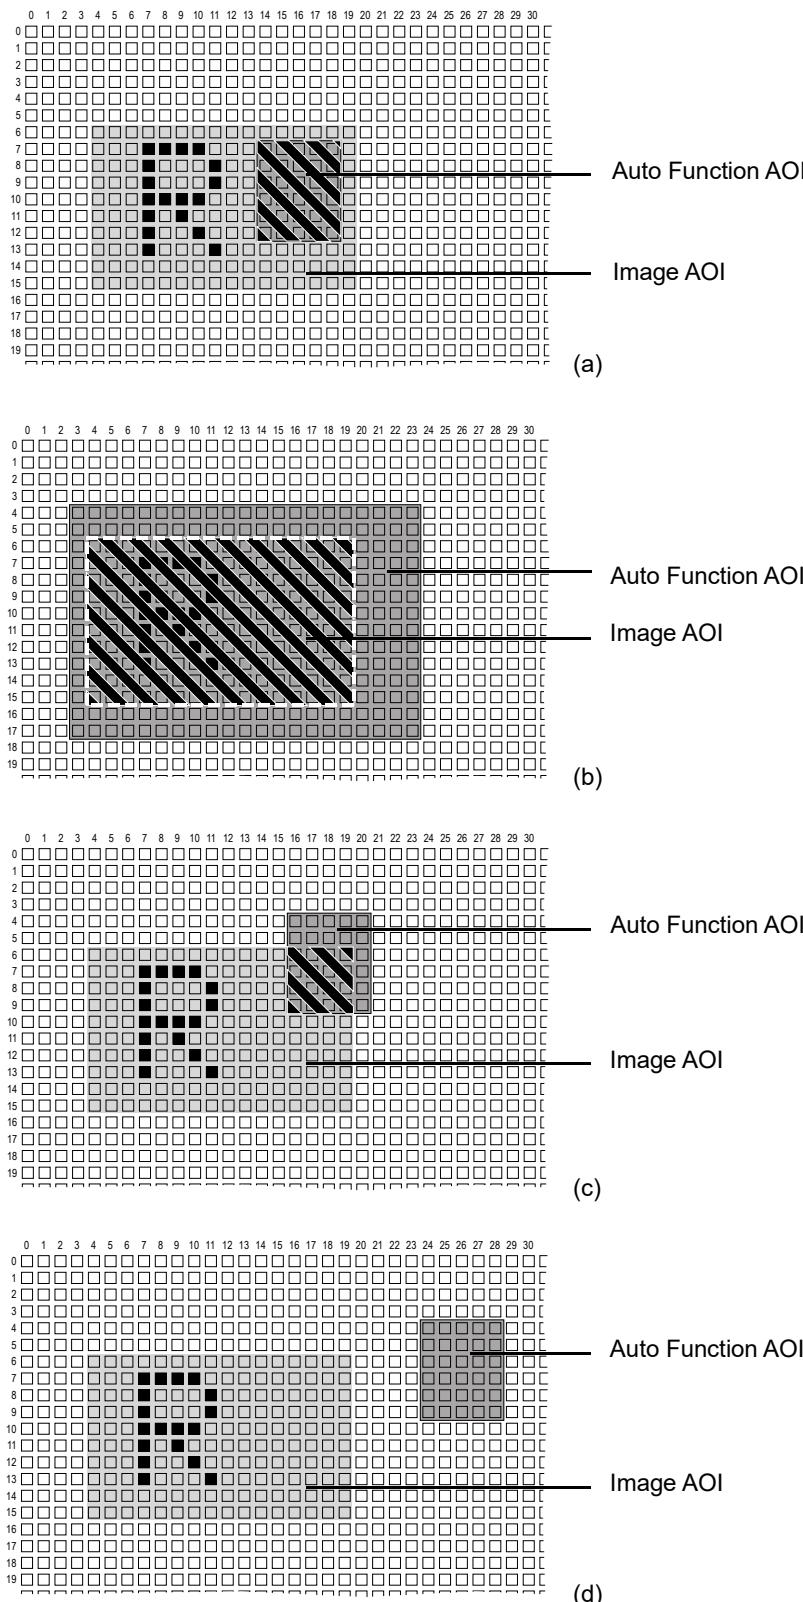

Fig. 81: Various Degrees of Overlap Between the Auto Function AOI and the Image AOI
Different degrees of overlap are illustrated in Figure 81. The hatched areas in the figure indicate areas of overlap.
- If the Auto Function AOI is completely included in the Image AOI (see (a) in Figure 81), the pixel data from the Auto Function AOI will be used to control the image property.
- If the Image AOI is completely included in the Auto Function AOI (see (b) in Figure 81), only the pixel data from the Image AOI will be used to control the image property.
- If the Image AOI only partially overlaps the Auto Function AOI (see (c) in Figure 81), only the pixel data from the area of partial overlap will be used to control the image property.
- If the Auto Function AOI does not overlap the Image AOI (see (d) in Figure 81), the Auto Function will **not** or only to a **limited** degree control the image property. For details, see the sections below, describing the individual auto functions.